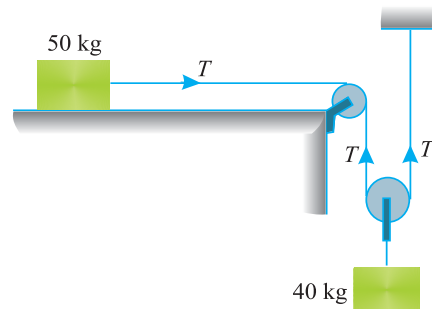

Fig. 25.9.
5. Two blocks of mass 50 kg and 40 kg are connected by a light inextensible string as shown in Fig. 25.9.